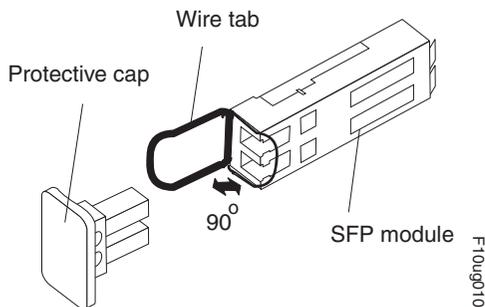

Figure 8. Unlocking the SFP module latch - wire variety
- For SFP modules that contain wire tabs, unlock the SFP module latch by pulling the wire latch outward 90°, as shown in Figure 8.